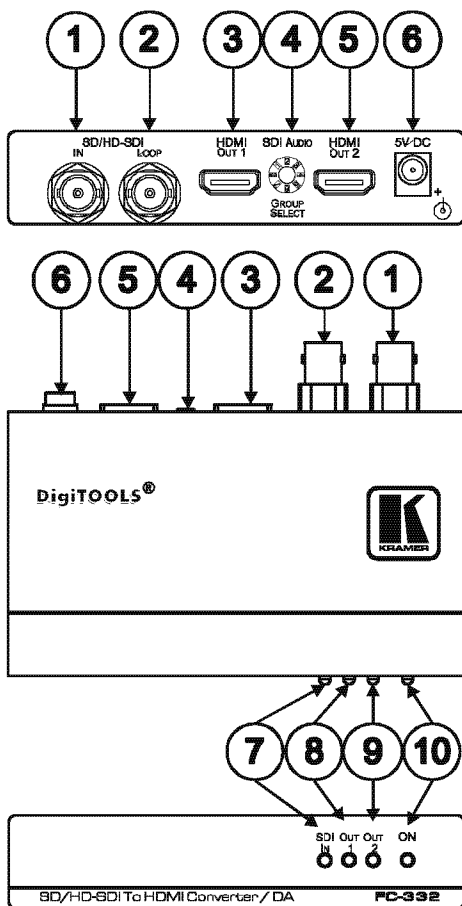

Figure 1: FC-332 SD/HD-SDI to HDMI Converter/DA
*Figure 1 and Table 1 define the FC-332 SD/HD-SDI to HDMI Converter/DA:*